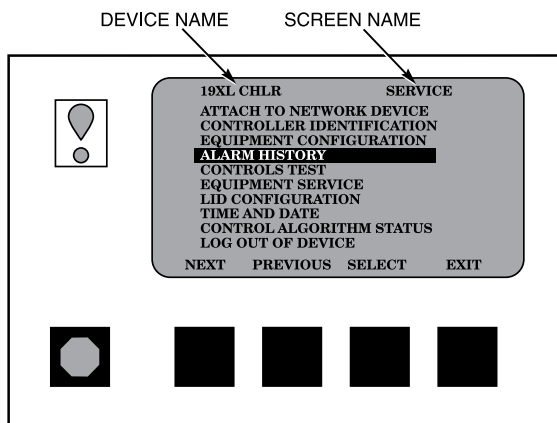

Fig. 14 — LID Service Screen
- When not in the default screen, the upper right-hand corner of the LID always displays the name of the screen that you have entered (Fig. 14).